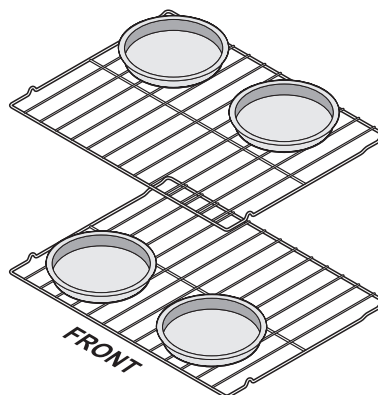

Figure 16: Pan positions for convection baking
- When baking cakes using two oven racks place bakeware in positions 3 and 5 and place bakeware as shown in Figure 16.